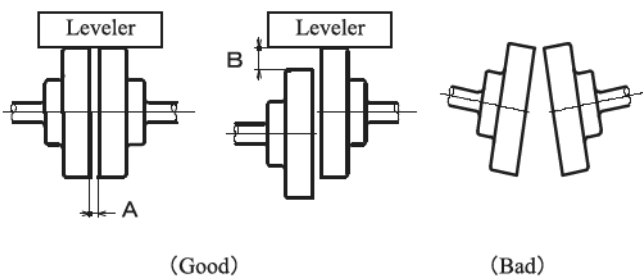

Fig. 2 Aligning the Couplings
- (1) To properly connect the geared motor to the machine, reduce the eccentricity between the motor and the machine to 0.05 mm or less. Use a flexible coupling to easily connect the motor to the machine (refer to Fig.2).